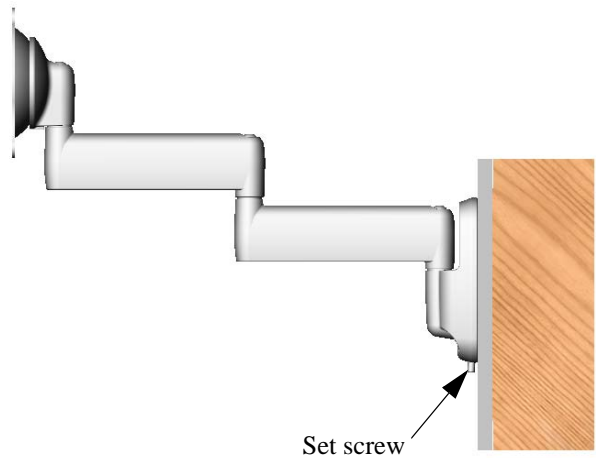

Figure 6. Tighten Setscrew to Secure
2. Using the 5/32" hex wrench (160), secure the FWD-111 to the wall bracket by tightening the set screw (see Figure 6).